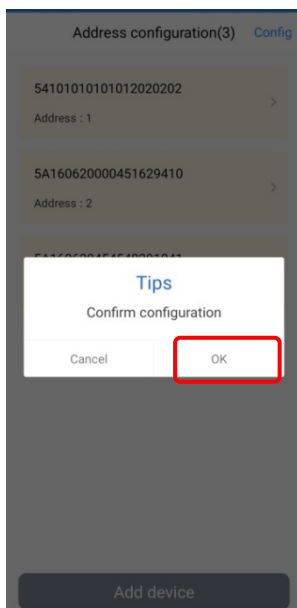

Figure3-42 Confirm configuration page
Step 5 After the address of all DCDC modules is entered, the bottom "**Add device**" button will turn to gray, click "**OK**" to confirm the configuration, as shown in Figure3-42. 30s later, the address setting is completed.